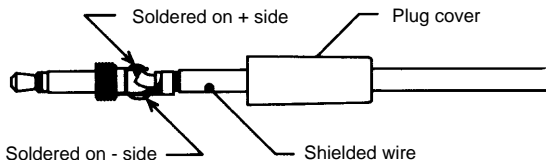

Figure 10. Shielded Wire Connection Diagram
1. Prepare a coated single-core shielded wire and solder it to the attached recorder output plug as shown in Figure 10. Connect another shielded wire to the input connector of the observation equipment.